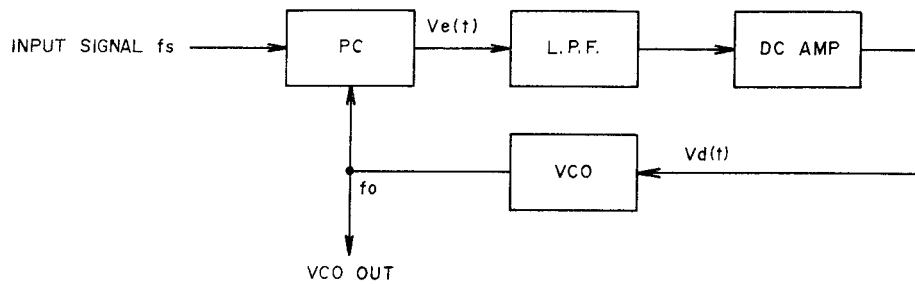

Fig. 13 PLL Circuit
PLL circuit is a kind of feedback circuit and is comprised of a Phase Comparator (PC), a Low Pass Filter (LPF), a Direct Current Amplifier (DC Amp) and a Voltage Control Oscillator (VCO) as shown in Fig. 13. The PC compares input signal F_s and VCO oscillator output and generates the difference in signal voltage $V_e(t)$ proportionately to this phase deviation. This $V_e(t)$ passes LPF and the DC Amp and becomes control voltage. This control voltage supplied to VCO and VCO oscillation frequency is DC controlled. When there is no input signal F_s , because there is also no $V_e(t)$, control voltage $V_d(t)$ becomes zero, and VCO maintains a *Free-running oscillation frequency. When a signal enters, VCO oscillation frequency F_o is controlled to narrow the difference between F_s by means of feedback as described above, and the PLL circuit assumes a synchronous condition. This is referred to as input signal lock. (When the difference between F_o and F_s is too large, the differential signal frequency becomes
Accordingly, for composite stereo signal demodulation, the sub carrier used for demodulation at the transmitter must be the same uniform 38 kHz signal as the frequency and phase. If the 38 kHz waveform is asymmetrical, channel separation will become poor. At the PLL employed MPX stereo demodulator circuit, as shown in Fig. 13 first a 76 kHz signal is oscillated and when this passes the divider, a symmetrical 38 kHz signal is obtained.